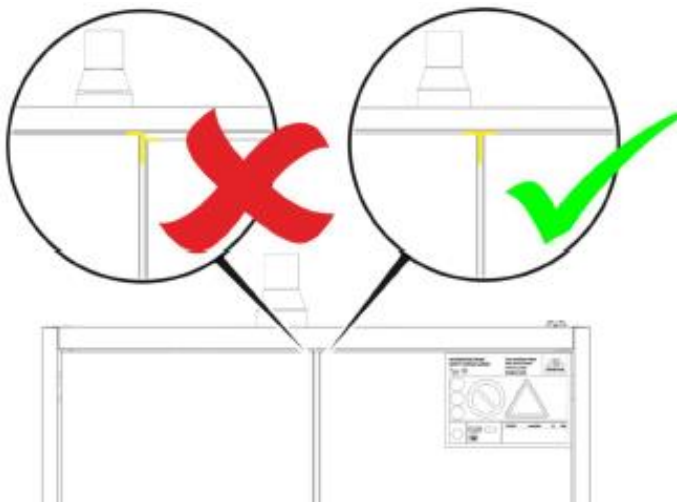

Fig. 15: Checking alignment
- With two doors, the central gap and roof gap form an even "T" (see Fig. 15)